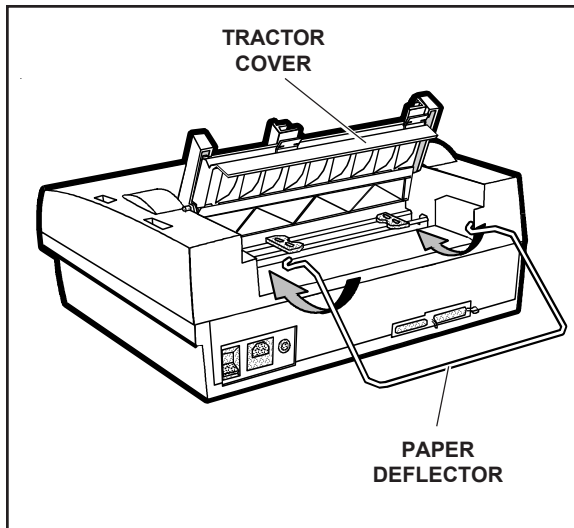

Figure 2-4. Installing the Paper Deflector
1. To gain access to the forms tractors, raise the tractor cover until it snaps into the raised position. Then, align the paper deflector, as shown in figure 2-4.